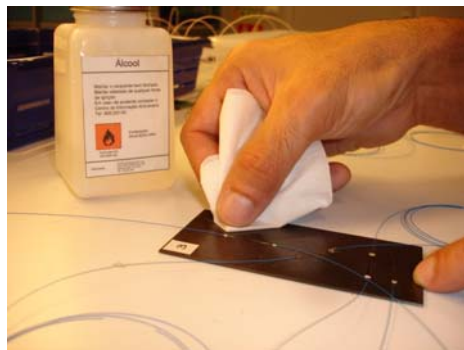

Fig. 2.2
If there are protection layers applied on the material, such as paint or rust, deburr (*Fig. 2.1*) or sand (*Fig. 2.2*) the surface to remove them ensuring that the surface does not become irregular.
- Clean the surface with a tissue and alcohol, always wiping in the same direction until the tissue comes out clean (*Fig. 2.2*).